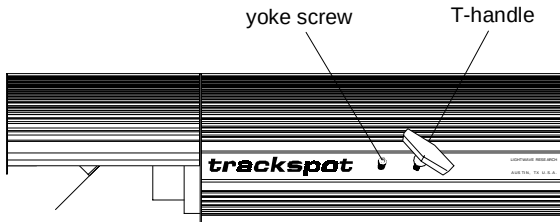

Figure 1-1. Side view of Trackspot
3. Remove the yoke screws and T-handles already installed in the Trackspot fixture (see Figure 1-1).